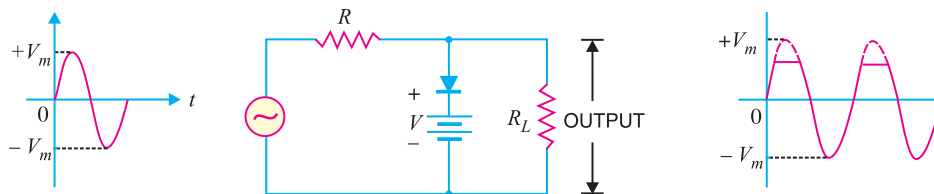

Fig. 18.26
**(ii) Biased clipper.** Sometimes it is desired to remove a small portion of positive or negative half-cycle of the signal voltage. For this purpose, biased clipper is used. Fig. 18.26 shows the circuit of a biased clipper using a diode with a battery of  $V$  volts. With the polarities of battery shown, a portion of each positive half-cycle will be clipped. However, the negative half-cycles will appear as such across the load. Such a clipper is called *biased positive clipper*.